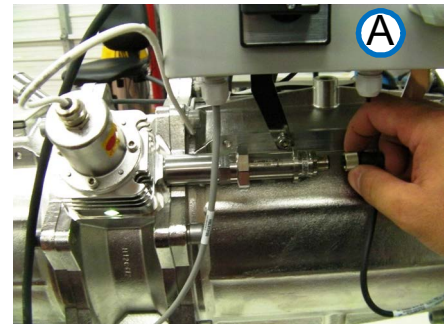

Figure 10-25: Removing connector A (Generic View)
- Step 1.** To disconnect the harness connector (shown in view A, **Figure 10-25**), unscrew the sensor's threaded locking nut.